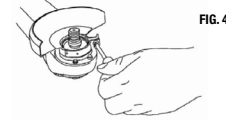

FIG. 4
7. Use a #2 Philips® screwdriver to tighten the guard clamp screw (Fig. 4).